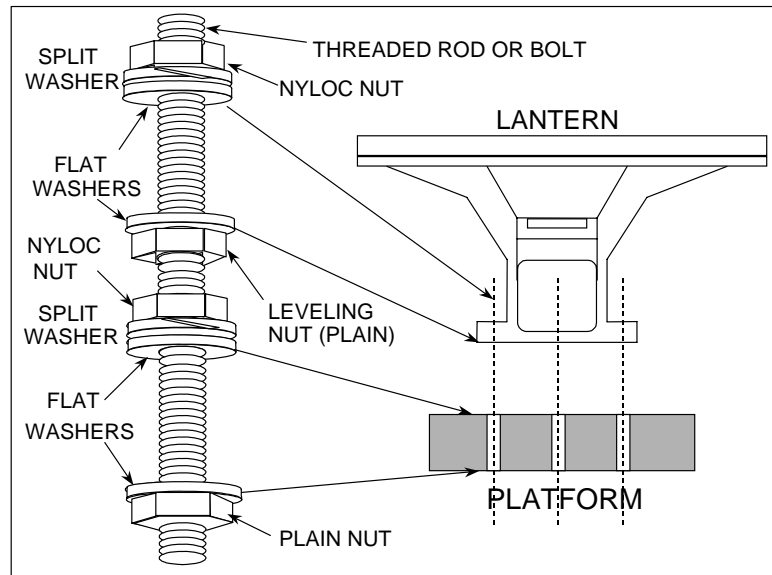

Figure 3-30
- a. Install three ½ inch threaded rods or bolts equally spaced on a 7-7/8" bolt circle in the platform as shown in Figure 3-30. Add the leveling nut and flat washer at this time. Note, the beacon is provided with two (2) nylock and two (2) plain nuts for each mounting rod.